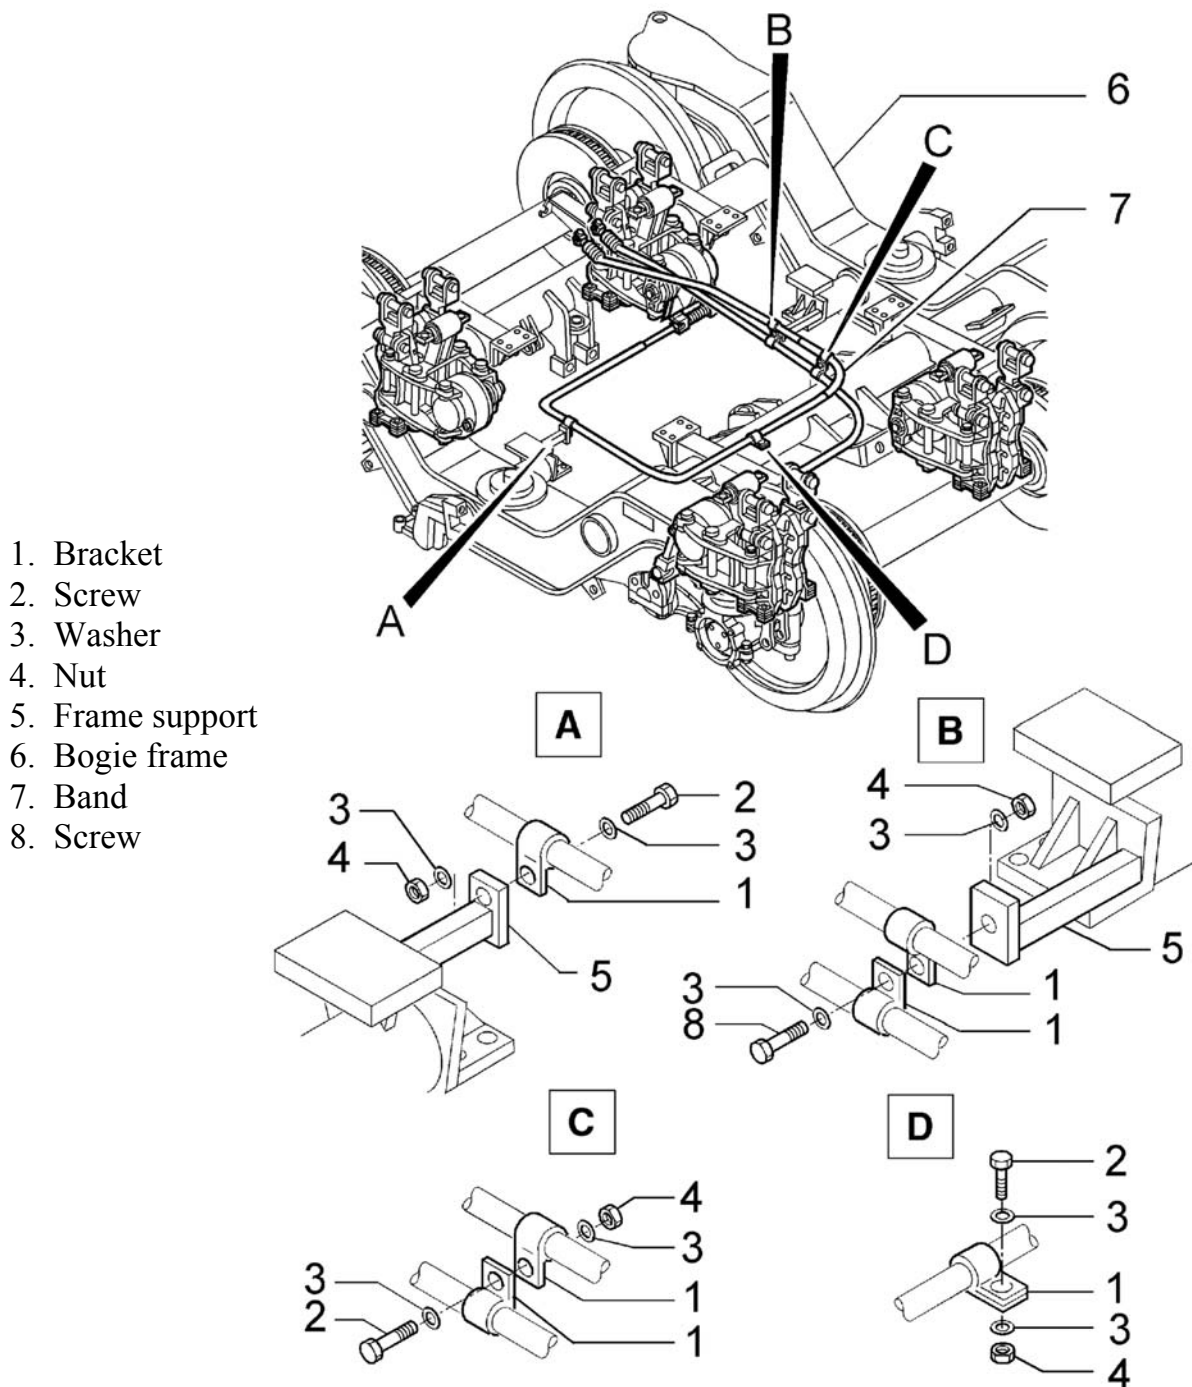

FIG. 4.36 HAND BRAKE CABLES REMOVAL 3/3
Finally, remove the brackets (1 - FIG. 4-36) which link the cables together and to the frame supports (5) extracting the screws (2, 8), the washers (3) and the nuts (4).